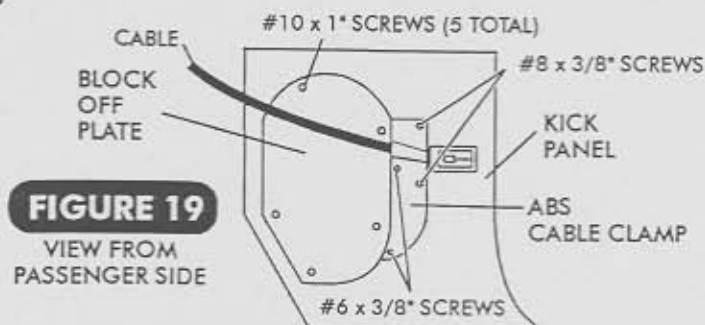

FIGURE 19
PASSENGER SIDE KICK PANEL - (SEE FIGURE 19)
- INSTALL BLOCK OFF PLATE SUPPLIED. ATTACH WITH FIVE #10 x 1" SCREWS. SEE FIGURE 19.
- ATTACH ABS CABLE CLAMP WITH TWO #6 x 3/8" AND TWO #8 x 3/8" SCREWS. SEE FIGURE 19.